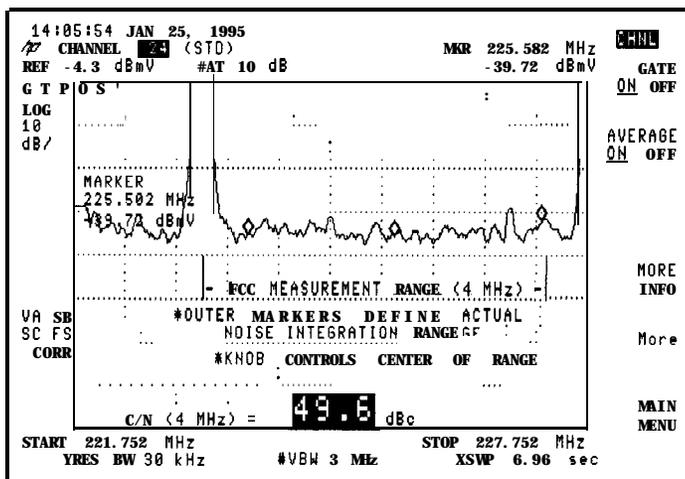

Figure 2.12. **Carrier-to-Noise—Modulation and Gating On**
- d. Press CONTINUE to complete the measurement and display the test results on the screen. See Figure 2-12.